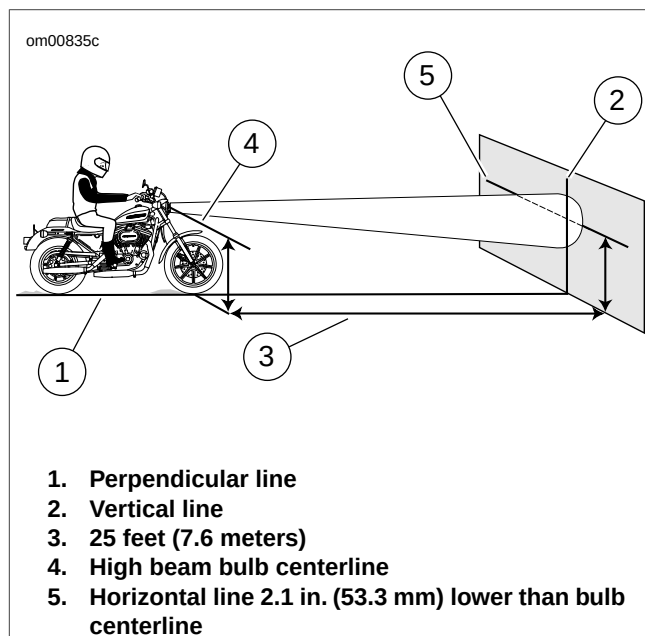

Figure 1-109. Checking Headlamp Alignment: Sportster Models
See Figure 1-109. To aid in properly placing the motorcycle, a perpendicular line (1) can be drawn on the floor. For best results, choose an area with minimum light.
3. See Figure 1-109. Draw a vertical line (2) on the wall.
7. See Figure 1-109. Verify headlamp alignment. Turn the ignition switch to IGNITION and set the headlamp switch to HIGH beam.